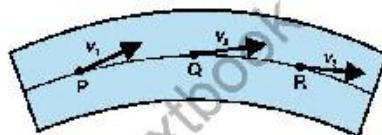

Fig. 5.12: The velocities of the particles at different points on streamline.
**Example:** A fluid flowing in a pipe as shown in Fig. 5.12 will have certain velocity  $v_1$  at P, a velocity  $v_2$  at Q and so on. If the velocity of a particle of the fluid at P, Q and R does not change with the passage of time, then the flow is said to be steady flow or streamline flow.